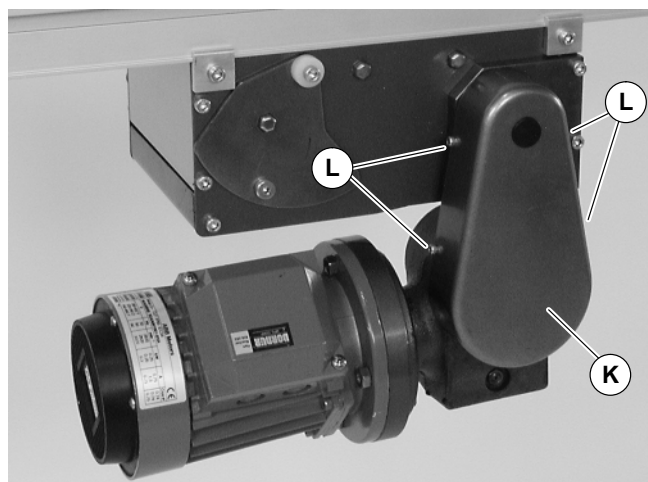

Figure 11
9. Install cover (K of Figure 11) with four (4) screws (L). Tighten screws to 4 Nm.
1. Remove four (4) screws (L of Figure 11) and remove cover (K).
4. Install cover (K of Figure 11) with four (4) screws (L). Tighten screws to 4 Nm.
6. Install cover (K of Figure 11) with four (4) screws (L). Tighten screws to 4 Nm.